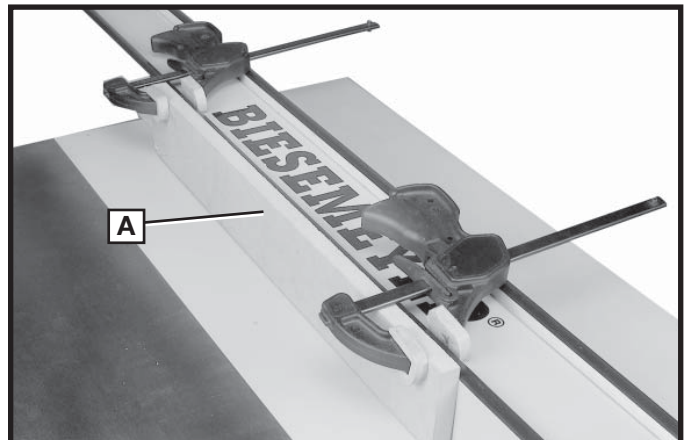

Fig. S22
It is necessary when performing special operations such as when using the moulding cutterhead to add wood facing (A) Fig. S22, to one or both sides of the rip fence. Depending on the fence, the wood facing is attached to the fence either with wood screws through holes drilled in the fence or with two clamps (as shown in Fig. S22). For most work, 3/4" stock is suitable, although an occasional job may require one-inch facing.